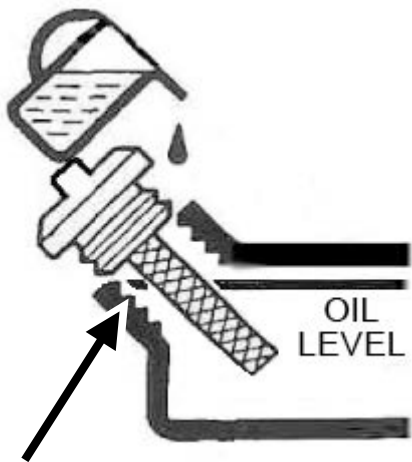

Figure 2 - Add Oil To TOP Of Threads
3. Using a funnel, add high detergent motor oil to fill the engine crankcase to the correct quantity. SAE10W-30 oil is recommended for general, all-temperature use. **When the engine crankcase is full, the oil level should reach all the way up to the threads** as illustrated in Figure 2.